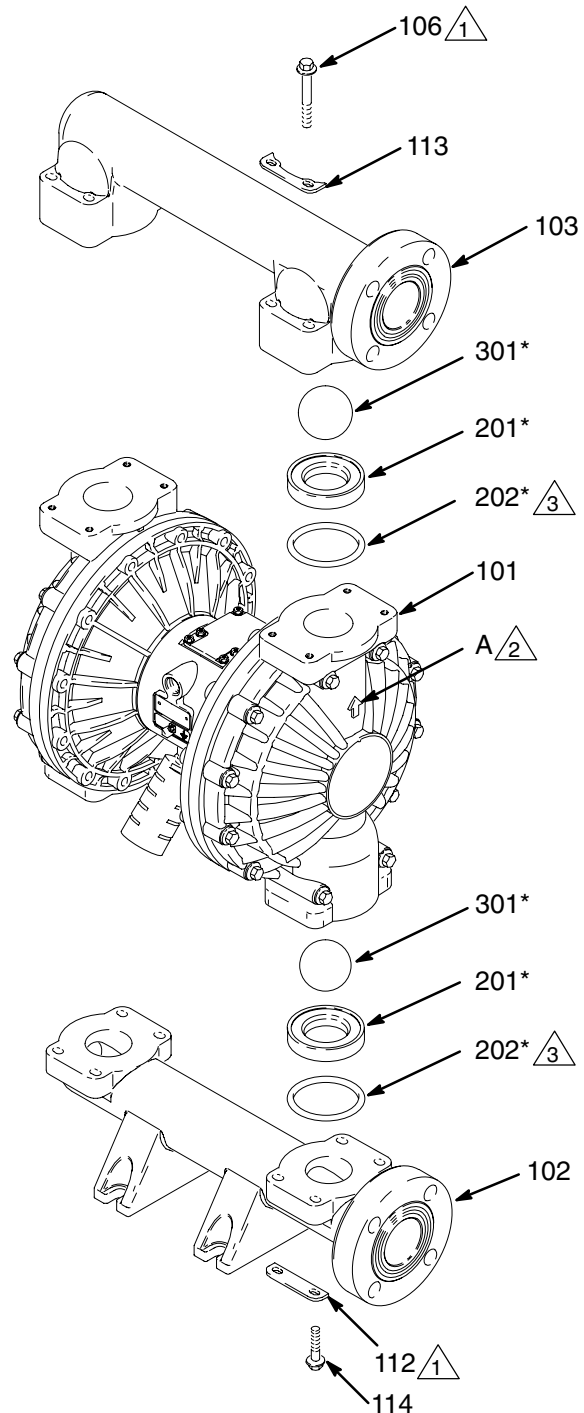

Fig. 11
3. Using a 10 mm socket wrench, remove the eight bolts (106) and four washers (113), holding the outlet manifold (103) to the fluid covers (101). See Fig. 11.
4. Remove the seats (201), balls (301), and o-rings (202) from the manifold.
2. Reassemble in the reverse order, following all notes in Fig. 11. Be sure the ball checks are assembled **exactly** as shown. The arrows (A) on the fluid covers (101) **must** point toward the outlet manifold (103).